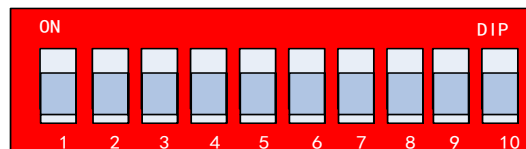

Figure 2-9 Enlarged View of DIP Switch
- For some certain models, the two individual DIP switches at the left side of the Figure 2-9 are supported for turning on/off the terminator; while other models are not supported.